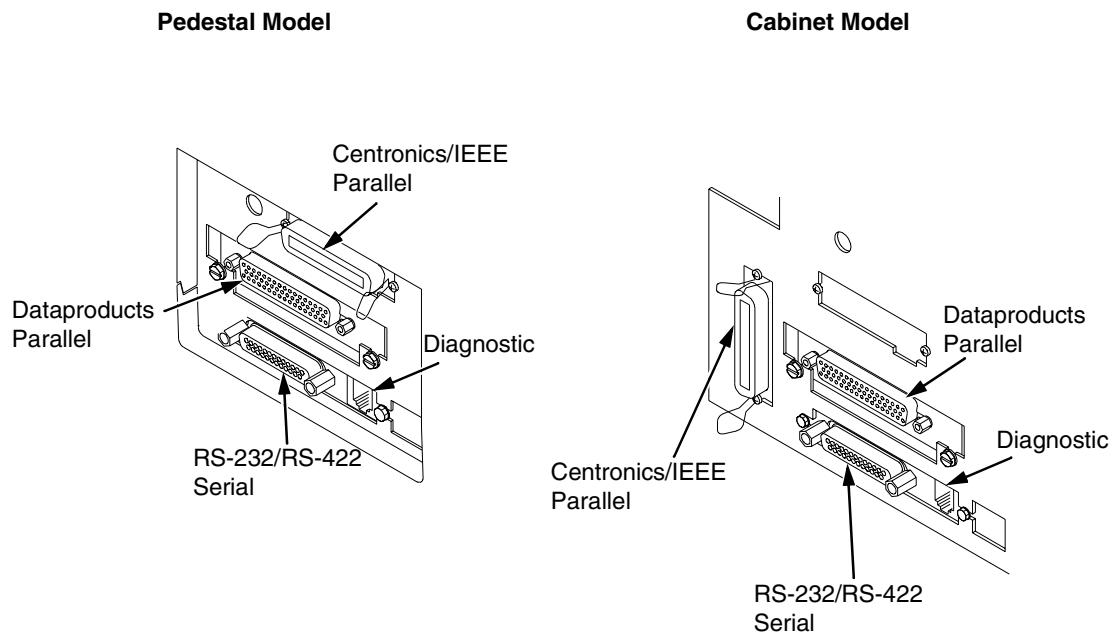
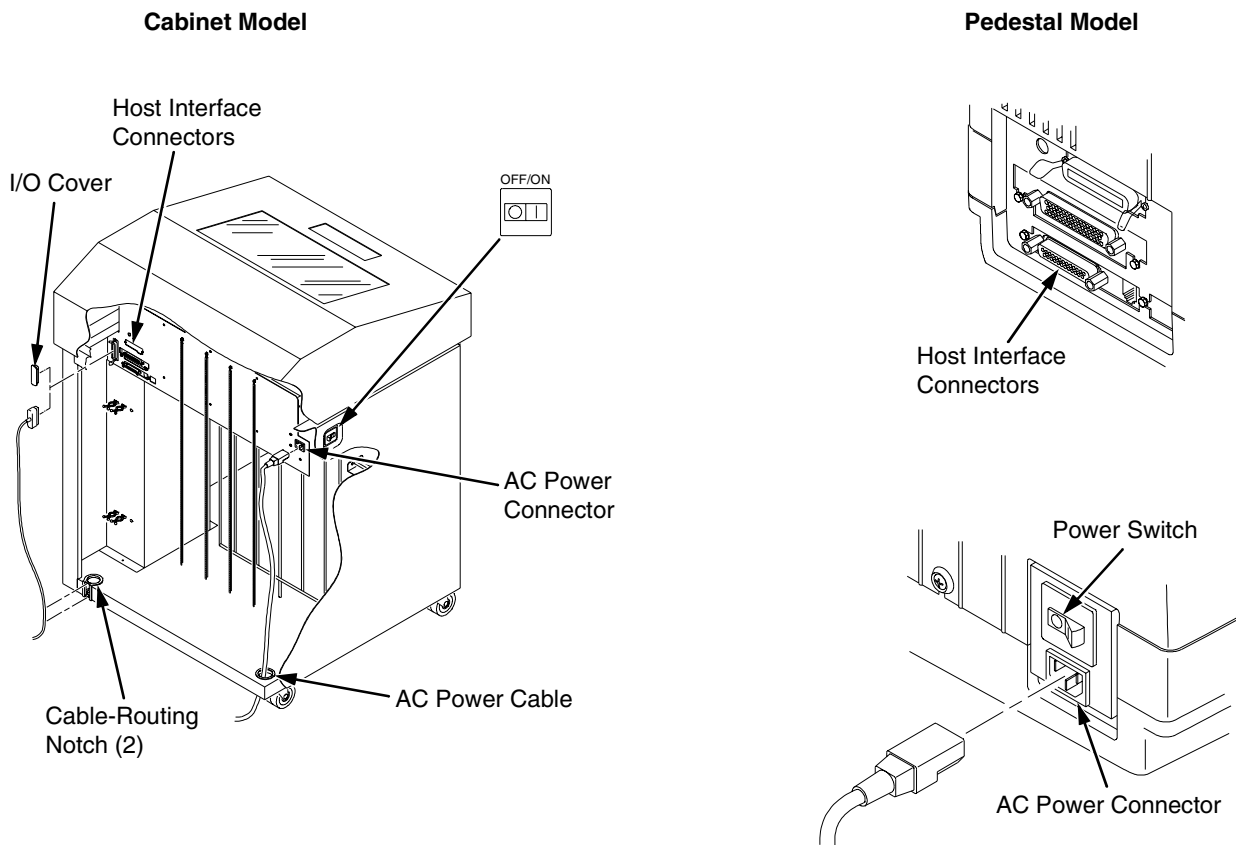

Figure 20. Cable Connection Locations
Figure 21. Interface and Power Locations
Before you connect the interface and power cables, verify the voltage source at the printer site conforms to the requirements specified on page 17. Make sure the printer power switch is set to OFF (see Figure 21).
1. Make sure the printer power switch is set to OFF (see Figure 21). Connect the (customer-supplied) interface cable from the host computer to the appropriate printer interface connector (see Figure 20). Refer to Chapter 5, "Interfaces," for descriptions of the connectors and their pin assignments.
2. Plug the power cord into the printer AC power connector, then into the AC power outlet (see Figure 21).